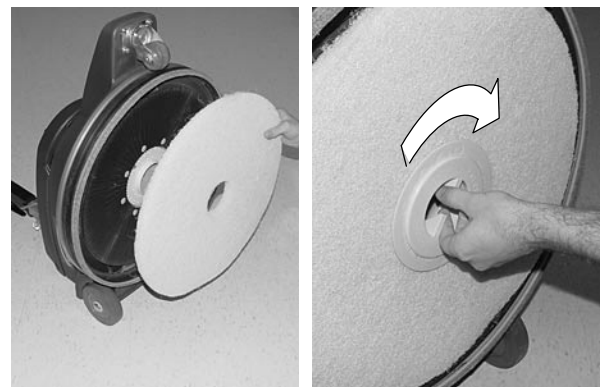

FIG. 2
3. To install the pad, remove the plastic centerlock ring from the pad driver by turning it counter-clockwise. Position the pad on the pad driver and replace centerlock ring by turning it clockwise. Make sure the centerlock ring is fastened securely (Figure 2).